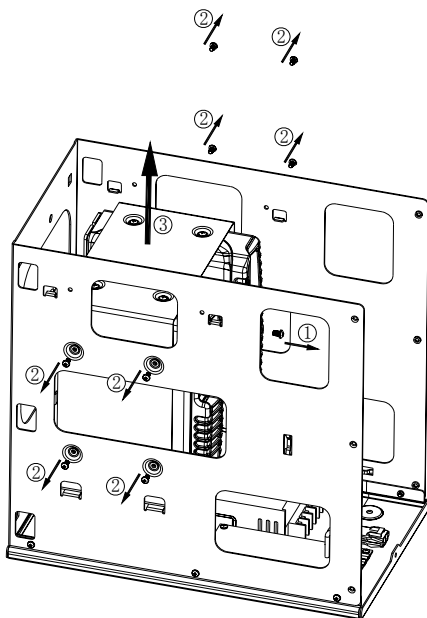

Figure 6
1. Remove the screw (M4.0X6.0) ① that secure the thermistor sensor using a screwdriver, shown as Figure 6.
2. Remove the eight screws (M3.0X6.0) ② that secure the bracket of radio using a screwdriver, shown as Figure 6.
3. Remove the bracket ③ shown as Figure 6, and remove the 2 signal cables and 2 power cables of both radios.